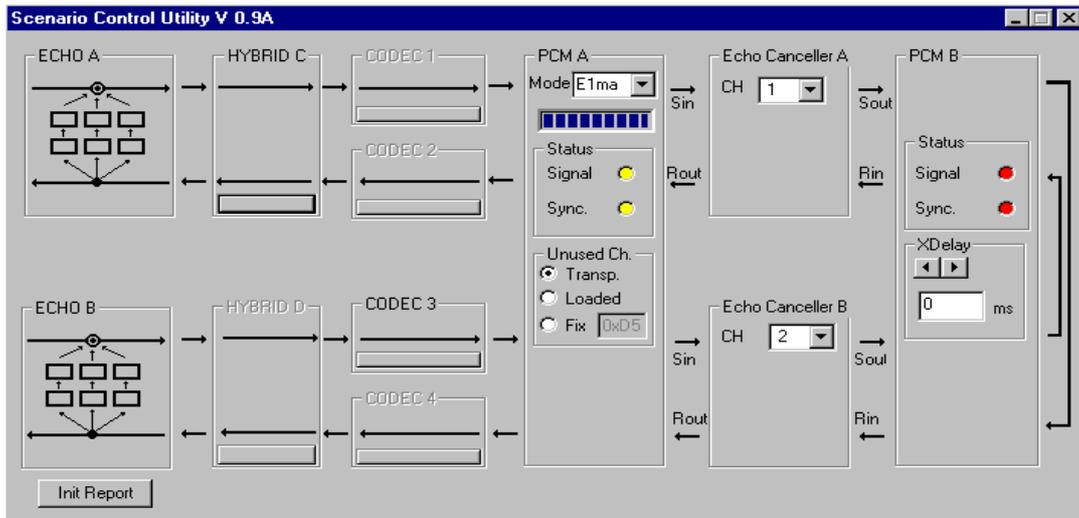

Figure 5-3. The Scenario Control Utility
- After Windows 95 has loaded, the front panel 'Boot Seq.' LED will illuminate indicating that the initialization software is loading. A selection of icons will appear on the monitor screen, and the 'Scenario Control Utility' window will be displayed (see Figure 5-3 below).
The Scenario Control Utility detects the hardware contained in the *ECT-1*, and uses bold lettering to indicate what is present. In Figure 5-3 below, it has detected one complex hybrid (Hybrid C) and one codec (Codec 3). These can be enabled/disabled by clicking the buttons beneath them.
This is a simple progress display of the loading of the hardware configuration, which can take up to 10 seconds to complete. The progress bar will run automatically at the boot sequence. (The Progress Bar is near the top of the 'PCM A' box, and is shown fully lit in Figure 5-3, and again, in Figure 5-4.)